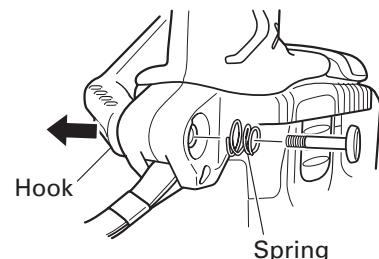

Fig. 9
- Remove the hook and spring. (Fig. 9)